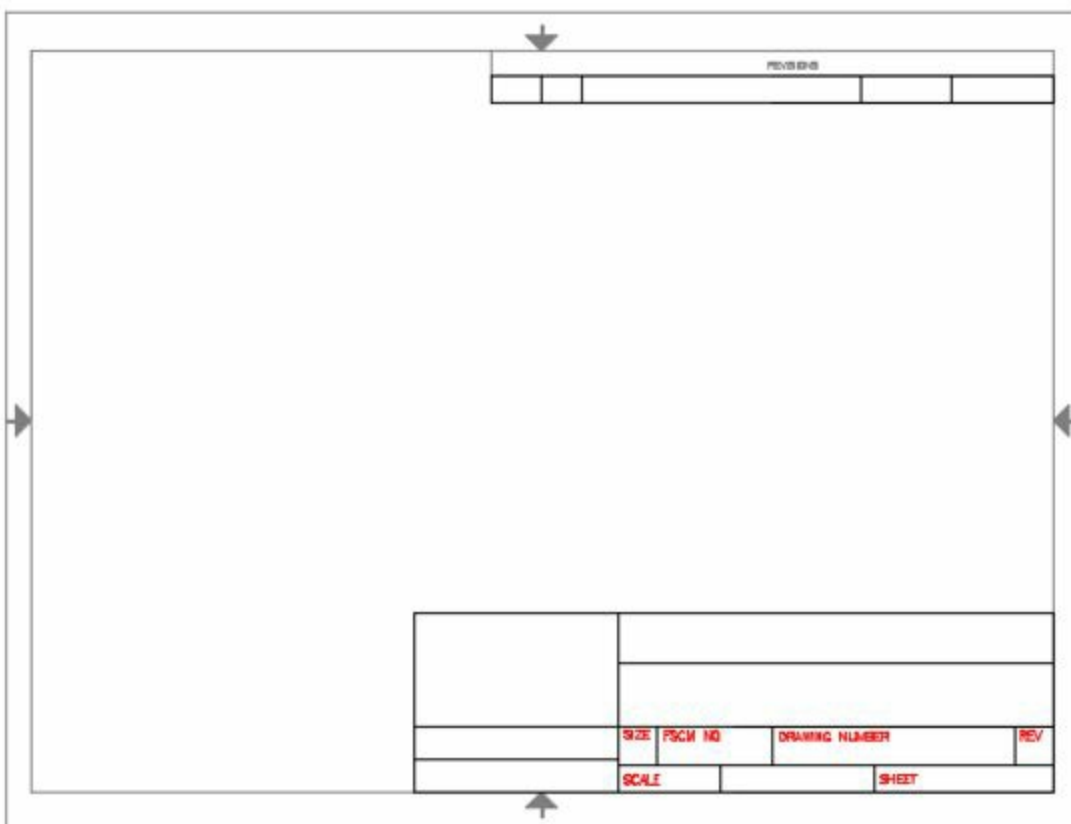

Figure-48. Drawing created
- Click on **Yes** to apply the settings. The drawing will be created; refer to Figure-48.